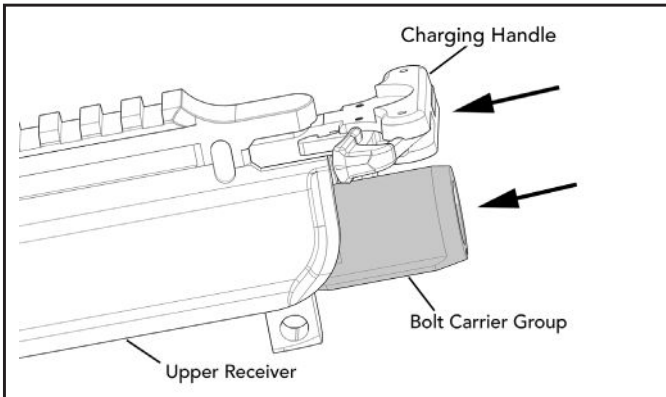

Fig. 66 – Completing installation of the bolt assembly into the upper receiver
- h. Push the charging handle and bolt group completely into the upper receiver until the locking lugs on the bolt head engage the locking on the barrel extension and the latch on the charging handle engages the oval locking surfaces on either the left or right hand sides of the upper receiver (Fig. 66).